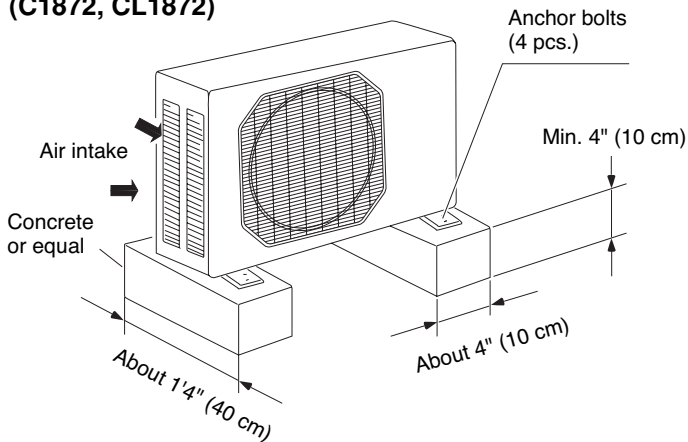

Fig. 5c
- provide a solid base (level concrete pad, concrete block, 4" x 1'4" (10 x 40 cm) or 6" x 1'4" (15 x 40 cm) beams or equal), a minimum of 4" (10 cm) or 6" (15 cm) above ground level to reduce humidity and protect the unit against possible water damage and decreased service life. (Fig. 5c or 5d)